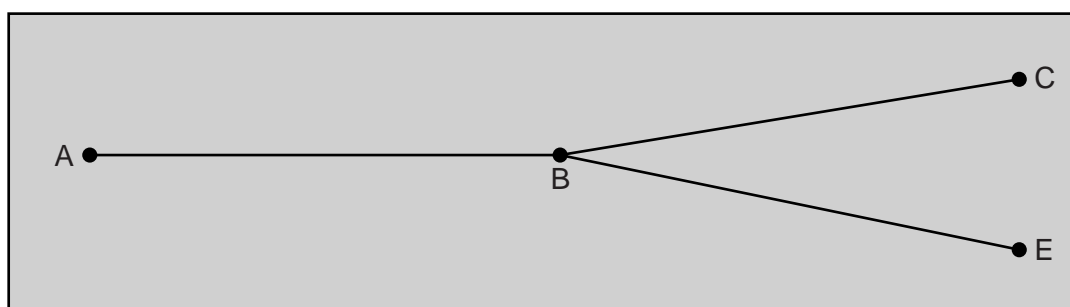

Fig. 2.1 (not to scale)
- 2 The wooden strip, wires and nails should be assembled as shown in Fig. 2.1.